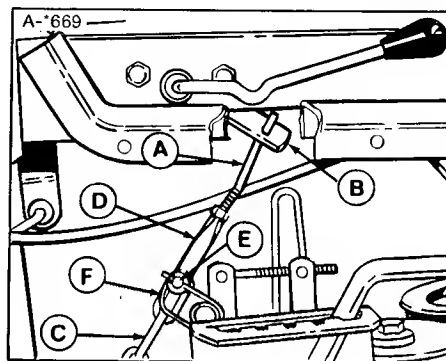

Figure 2. Lift Assembly
5. Place the lift lever fully forward so that lift arm (B, figure 2) is in lowest position.
6. Slide the mower under the tractor so that the lift chain (C, figure 2) is under the lift arm (B).
7. The lift rod (A, figure 2) must be hooked into the lift arm (B) as shown. Insert the lift rod into the hole from the left side then pivot back and down.
8. Secure chain (C) to clevis (D) with pin (E) and clip (F). (Early models are equipped with a simple hook instead of clevis assembly shown in figure 2 and figure 44). Use only 3 links of chain.
4. Disconnect the lift chain (C, figure 2) from the lift link (A). Remove the lift link (A) from the lift arm (B). Store the assembly until reinstallation of mower.